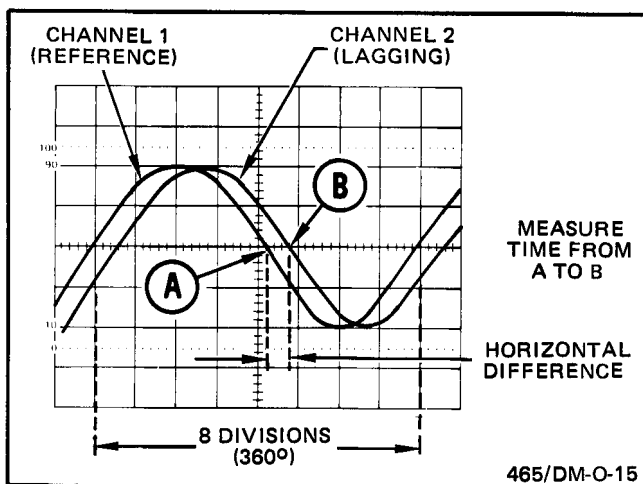

Fig. 2-7. Phase difference.
8. Turn the VAR TIME/DIV control until one cycle of the reference signal (Channel 1) occupies exactly eight divisions (see Fig. 2-7). Each division of the graticule represents 45° of the cycle ( $360^\circ \div 8 \text{ divisions} = 45^\circ/\text{division}$ ). The sweep rate can be stated in terms of degrees as 45°/division.
Assume a horizontal difference of 0.6 division with a sweep rate of 45°/division as shown in Fig. 2-7.